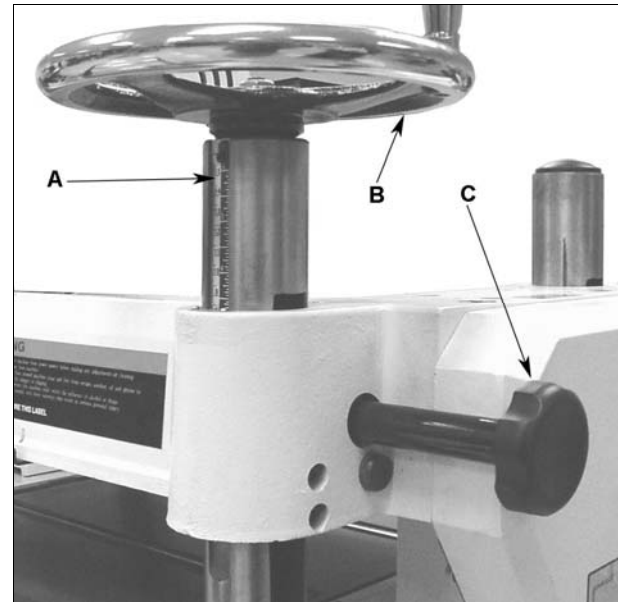

Figure 19
Refer to Figure 19.
**Note:** The JWP-16OS Planer has two lock knobs; one is located by the handwheel (C, Fig. 19). The other is located on the opposite (left rear) corner.